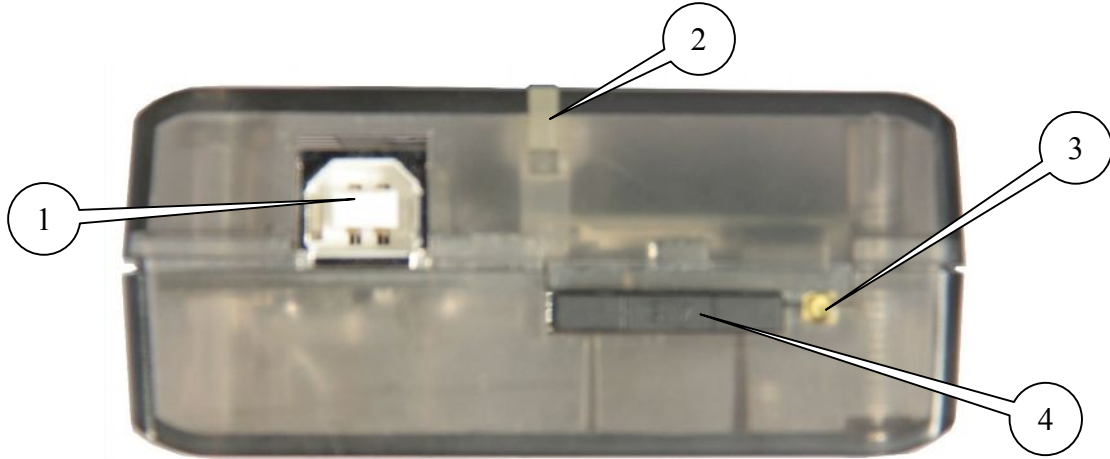
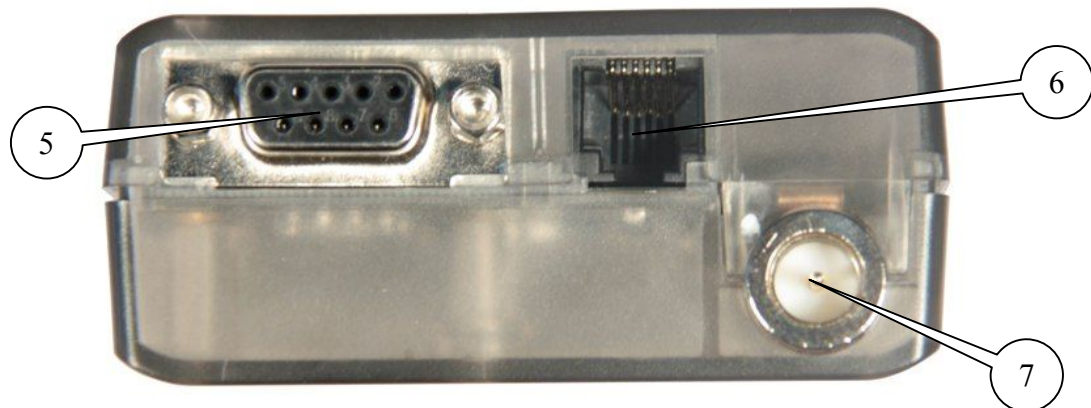

Fig.2.4.1 Front view
Fig.2.4.2 Back view
The modem TC65 Lite is a compact device designed in lightweight plastic housing. The exterior appearance is represented on Fig.2.4.1 and Fig.2.4.2.
On the figures 2.4.1 and 2.4.2 the digits signify the following:
- to extract the SIM tray by pressing the SIM tray extract button (Fig.2.4.1);
Connect the GSM antenna and the commutation cable (RS232 or USB) to the antenna connector (Fig.2.4.2). Thereupon you need to feed power supply to the modem through the connector RJ11 (Fig.2.4.1).